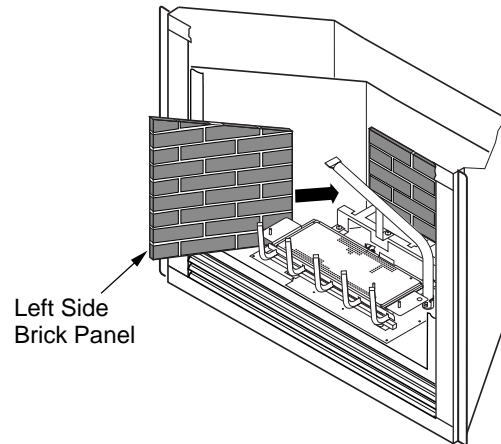

Figure 39 - Installing Left Side and Top Brick Panels
6. Install left side brick panel by sliding it between the grate and the side of the firebox (see Figure 39).